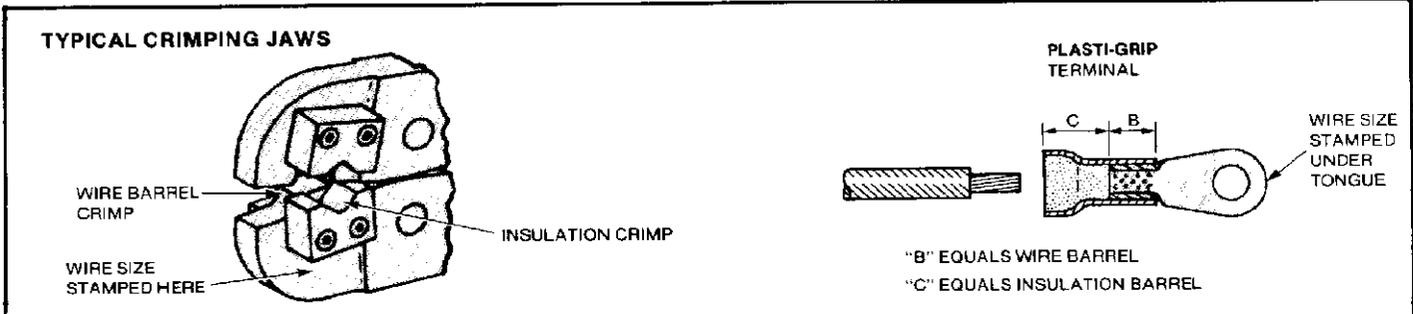

Figure 1
- (a) Select the proper size terminal and crimping jaw combination for the wire size being used. See Figure 1.
- Determine correct terminal wire loading by referring to CMA range listed in Figure 1. *Conductors must always be within CMA limits of wire barrel.*
- Strip wire to dimension indicated in Figure 1. Do not nick or cut conductor strands.
- Ensure that the wire size stamped on the terminal corresponds with the wire size stamped on the crimping jaws. See Figure 1.